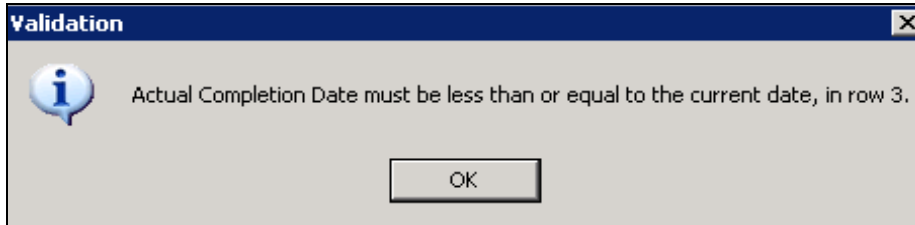

Figure 11-62: Actual Completion Date must be less than or equal to the current date validation message
- The system will return the following Validation message (Figure 11-62). Select OK, enter the missing Actual Completion Date in the correct MM/DD/YYYY format and attempt to import the spreadsheet again.